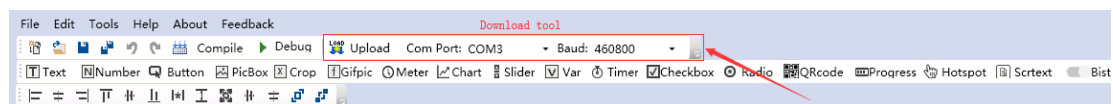

Figure 2-7
- 1) Set the serial port number and baud rate at the toolbar position as shown in Figure 2-7 ;